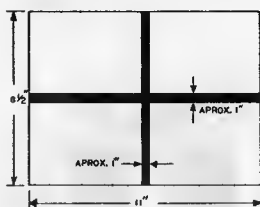

Fig. 3 "Cross" test card used for preliminary tune-up of camera.
1. Prepare a simple test card as shown in fig. 3. Don't use complicated patterns to start with...this test card was purposely designed to be as plain as possible. Even then you'll be very lucky if you can recognize it when you first turn on your camera. There's plenty of time for the more sophisticated test patterns once an image has been obtained.